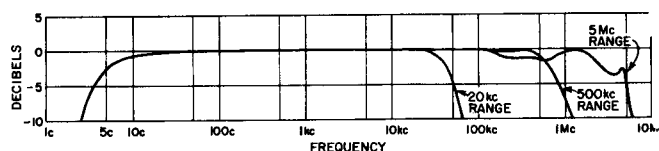

Figure 6. Typical Spectrum Level Characteristics for Type 1390-B Random-Noise Generator.
**2.5 FREQUENCY SPECTRUM OF NOISE.** The meaning of the term "frequency spectrum of noise" is illustrated in the following experiment. If a wave analyzer, such as the Type 1900-A, set to a 50-cps bandwidth, is used to analyze the output of the noise generator, a fluctuating meter reading will be observed at any setting of the analyzer. If an average value of this reading is taken over a period of time, this average value is an estimate of the level in that 50-cycle-wide band. This level, determined on any ranges of the noise generator, is essentially independent of the frequency setting of the Type 1900-A Wave Analyzer. Thus the spectrum in this region is uniform. The relative spectrum on the noise can be determined by the use of suitable analyzers to cover the full range of the principal energy regions of the noise. A typical result of such an analysis is shown in Figure 6 for the three bands of the Type 1390-B Random Noise Generator. When the spectrum is uniform over a broad band, as shown in Figure 6, it is commonly called "white noise". The "whiteness" always applies to a definite band only. For example, if the noise spectrum is uniform from 100 to 500 kc, the noise is referred to as white in that band.